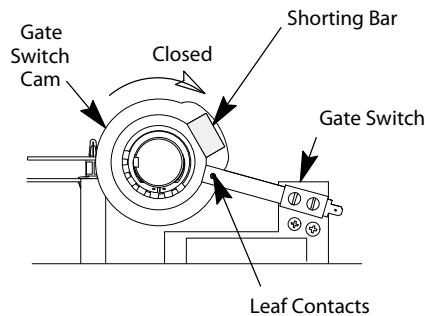

Figure 10 - Gate Switch
2. Rotate the disk in the CLOSE direction until the shorting bar just touches the two leaf contacts. See Figure 10.